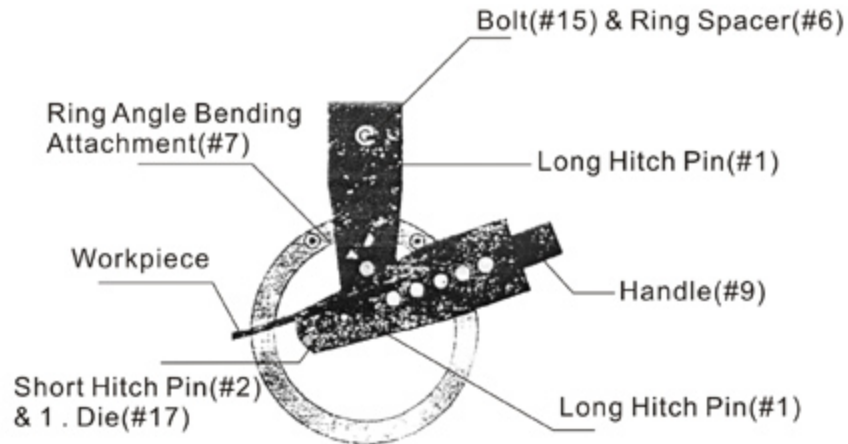

Figure5 - Using Angle Bending
- Step 1: Attach the RIGHT ANGLE BENDING ATTACHMENT(#7) as shown in Figure 5.